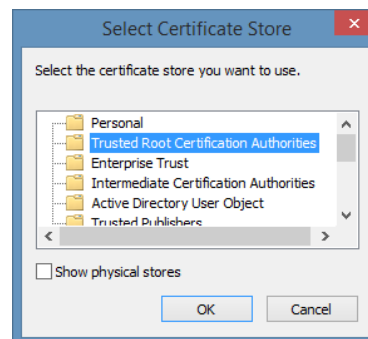

Figure 82: select certificate store
9. **Browse to Trusted Root Certification Authorities** and click **OK** (see Figure 82).